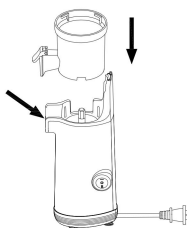

Fig 1
1. Position the squeezing bowl on the Power base aligning the position of the spouts and the axle. (Fig 1)